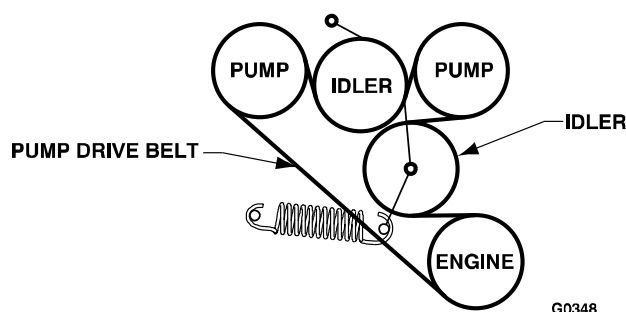

FIGURE 9
- c) Route new belt onto sheaves as shown in the decal located on the back of the left drive shield. See Figure 9.